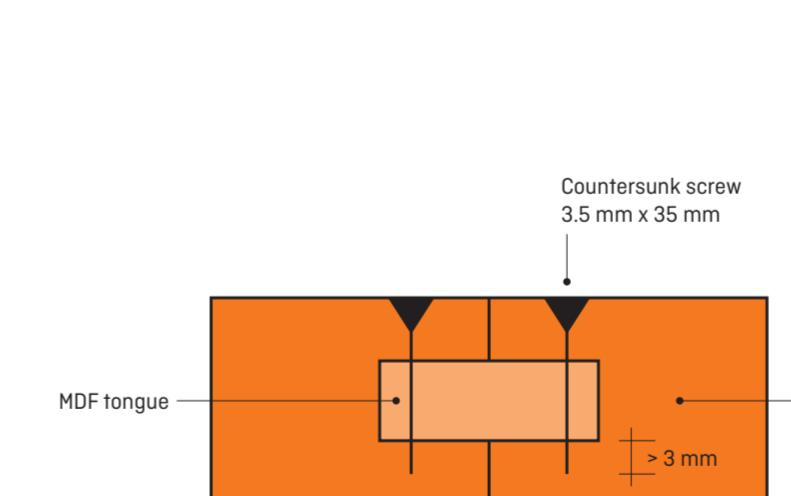

Fig. 1: Screwing the AGEPLAN® TEP into the MDF tongue
- Screw the AGEPLAN® TEP together in the MDF tongue as shown in fig. 1